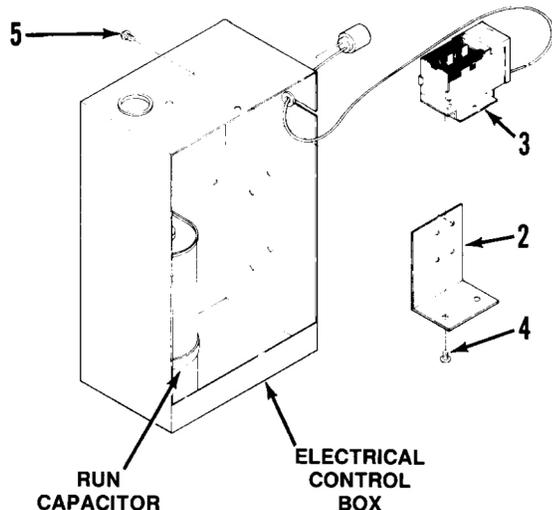
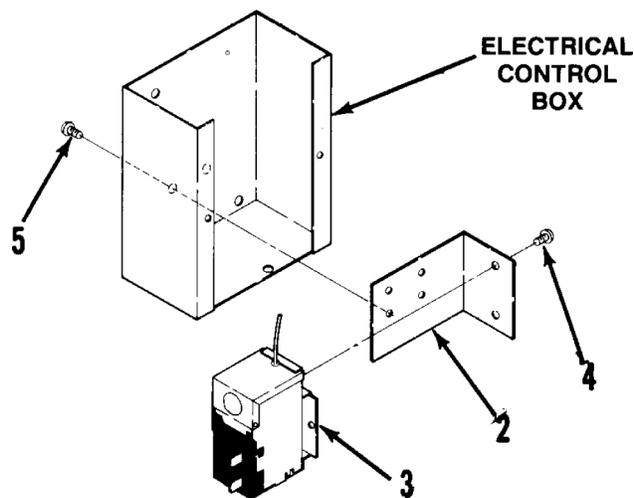

Figure 1.
Figure 2.
13. Install MOUNTING BRACKET (item 2) on ice bank control. Secure bracket to control with MACHINE SCREWS (item 4).
14. Install ice bank control inside control box as shown in applicable Figure 1 or Figure 2. Secure control with MACHINE SCREW (item 5).
(see Figure 1 for electrical control box)